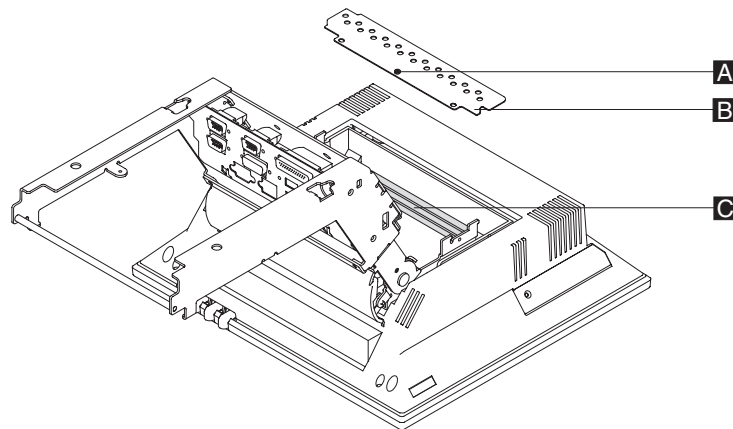

Figure 126. Removing the memory cover
4. Loosen the captive screw **A** from the memory cover **B** located on the back of the display, as shown in Figure 126, and slip the cover off of the two alignment pins **C**.